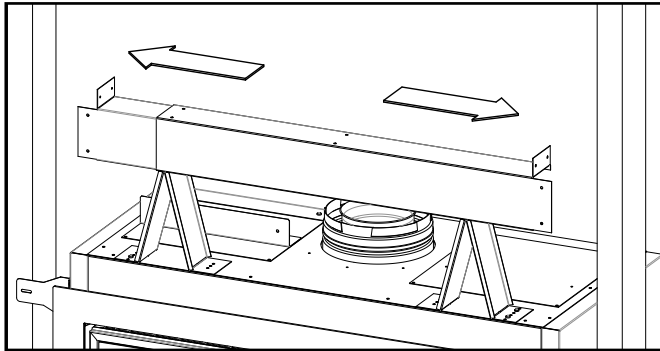

Figure 17: Steel Stud Placement
- Place the steel stud onto the top standoffs and slide outwards until both ends make contact with the framing studs (see Figure 17).